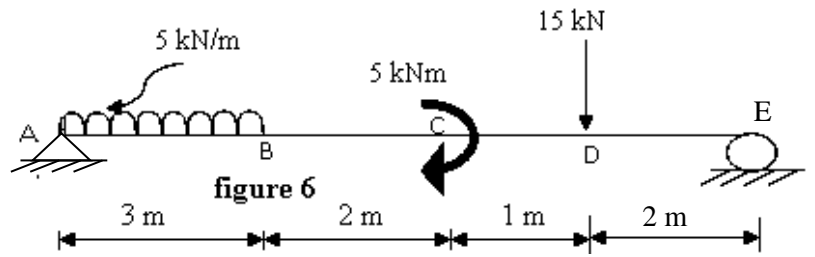

figure 6
- Q.4** (a) Determine reaction at supports for the Beam as shown in **Figure 6**. **03**